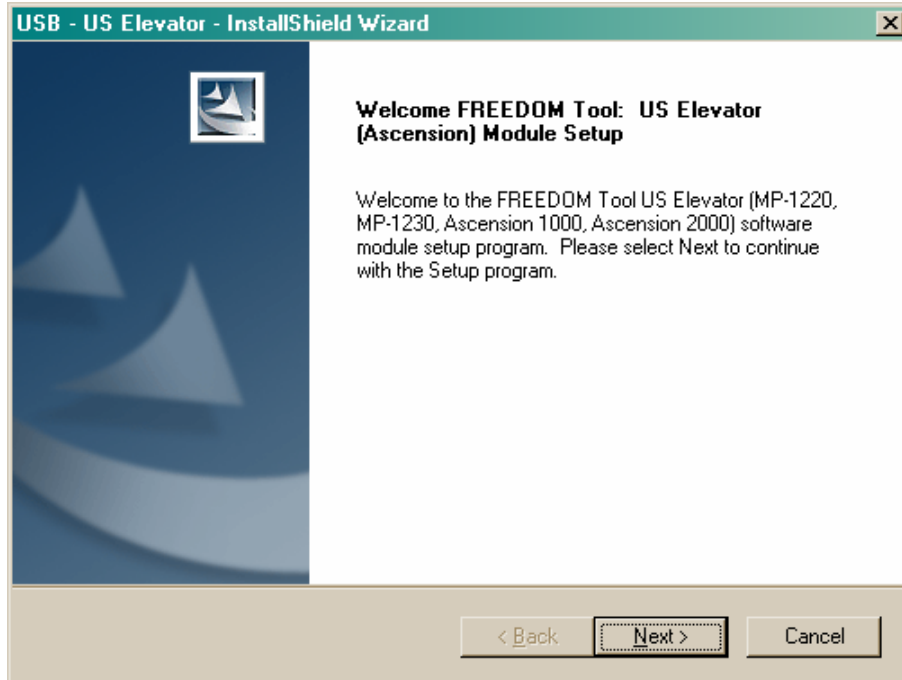

Figure 5
2. After selecting the **Install** pushbutton associated with the MP1220, MP 1230, Ascension 1000, and Ascension 2000 section of the FREEDOMWare Installer, the Install Shield Wizard will run showing a window similar to the one shown in Figure 5. To continue with the setup of the US Elevator(Ascension) software module simply click the **Next** pushbutton with the PC's pointing device.